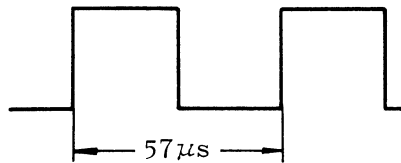

Fig. 4-1
- ① a. Adjust the 10x probe from the test oscilloscope to collector of TR1101 on the PEF-615.
- b. Adjust RV1101 on the PEF-615 unit so that oscillation frequency is 17.5 kHz (57 μ s). (See Fig. 4-1)